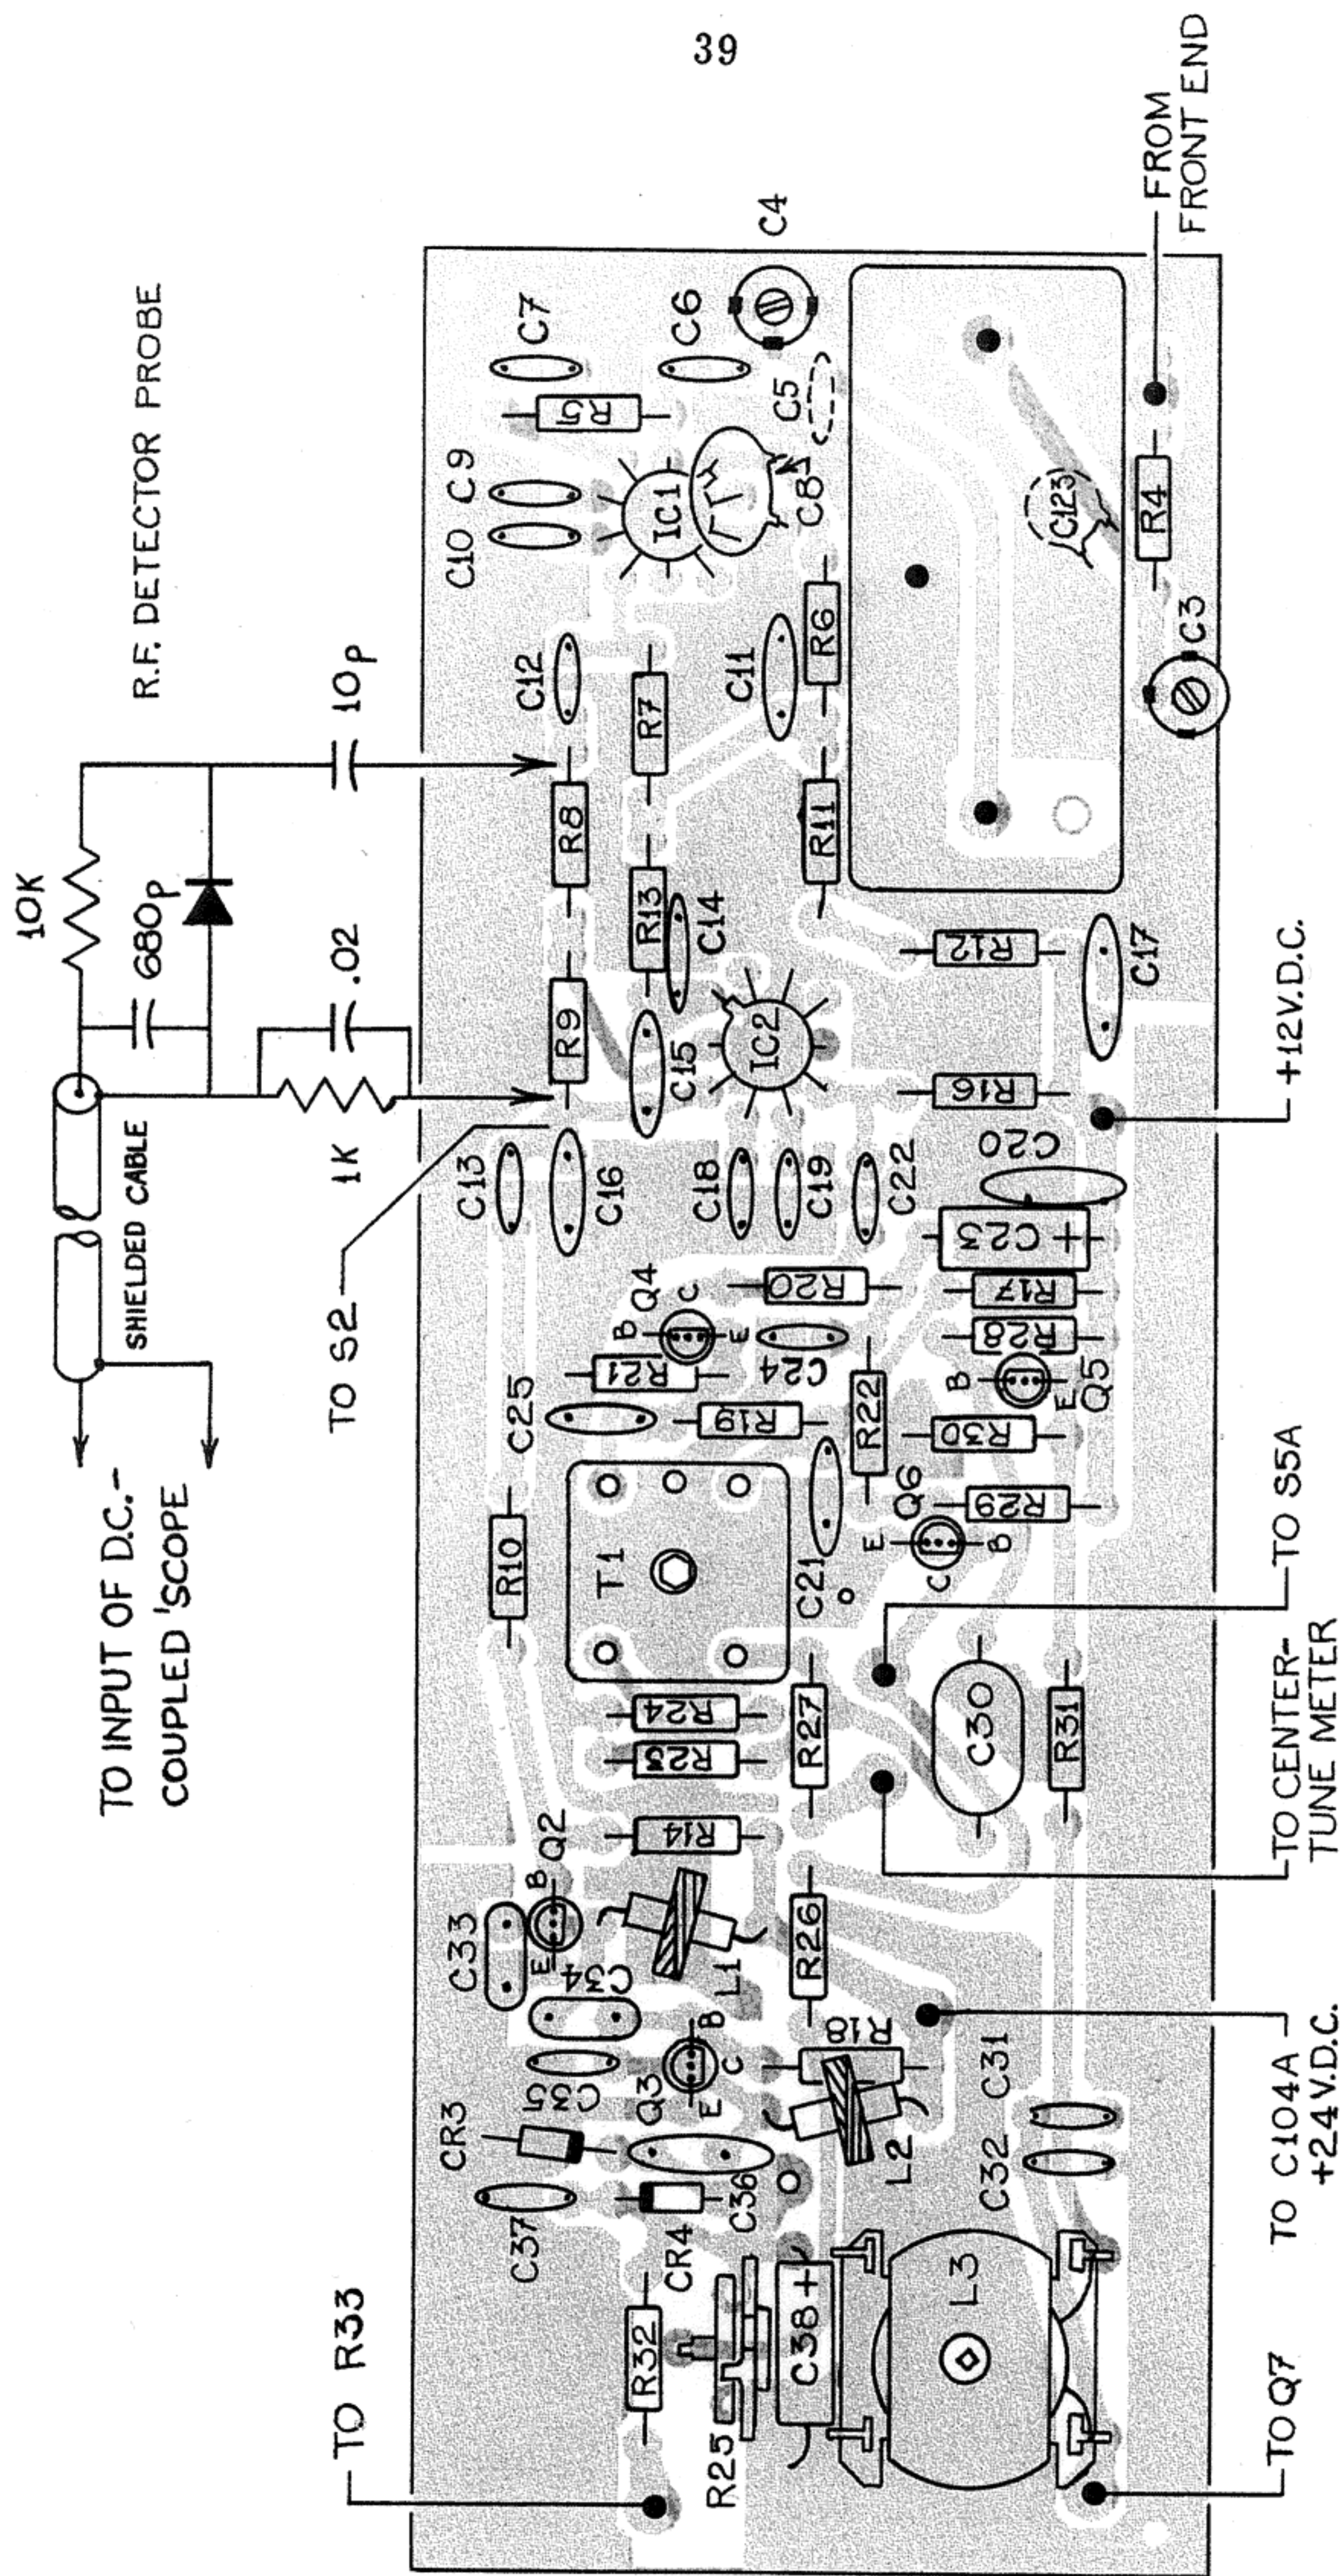

FIGURE 14
b. **Multiplex Board:** The multiplex filters in the receiver are RC 38 kHz notch types, instead of the LC low-pass types used in the tuner, and have no emitter-follower buffers after them. (See Figure 14.) The resulting higher source impedance causes early production receivers to be easily loaded down by most tape recorder inputs. Later receivers are equipped with tape output boards having low output impedance. This board also provides switchable de-emphasis for universal receivers. (See Figure 15.)